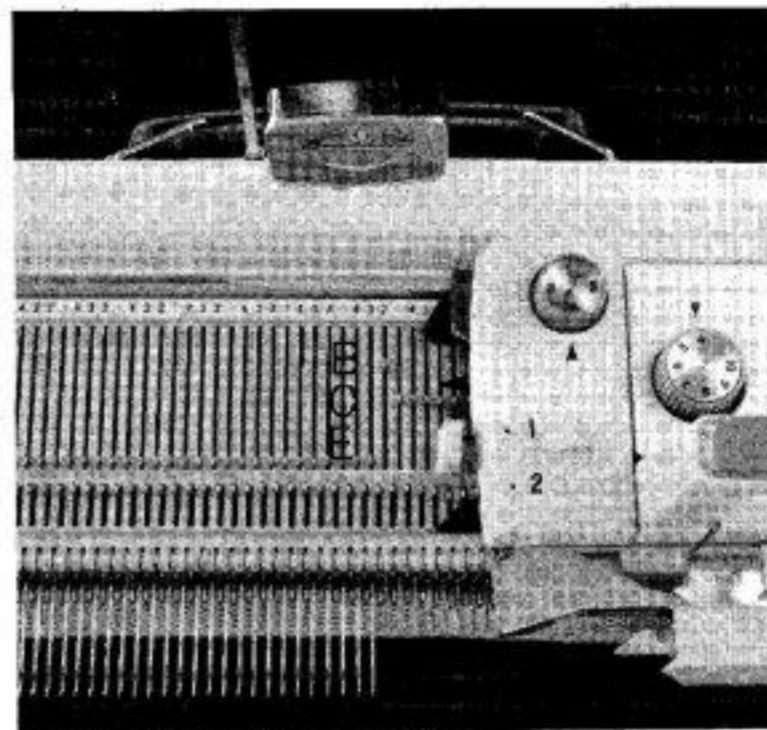

Fig. 17
**Position 1** With the lever in this setting, needles in Position (E) **will not knit** regardless of the position of the Pattern Control Knob, but needles in Position (D) **will knit** also regardless of the position of the Pattern Control Knob. Therefore, this setting is used for 'turning', 'part knitting', etc. (Fig. 17)
**Position 2** With the lever in this setting, needles in Position (E) will also knit, and therefore, with the Pattern Control Knob in Position M, needles in any of the Positions (B), (C), (D) or (E) will knit.